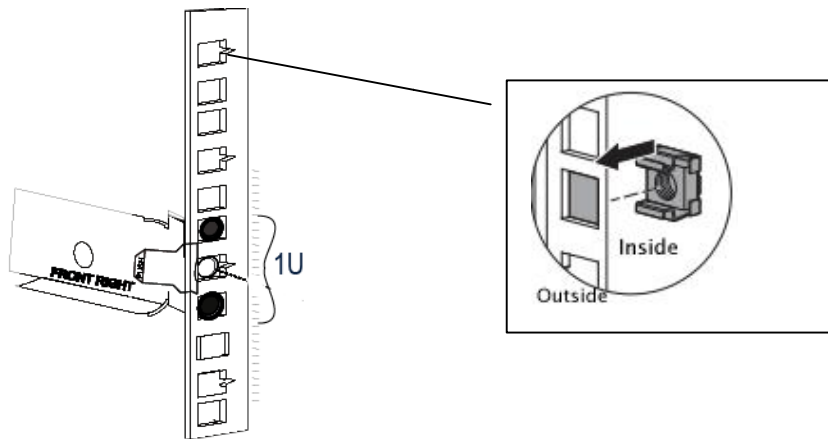

Figure 2: Attach the cage nuts to the rack columns
3. Place the cage nuts 6 holes (or 2U space from the centerline of the rail) above and snap it into the square holes of the front columns. These cage nuts will be used to attach the ES NAS to the rack later (Figure 2).